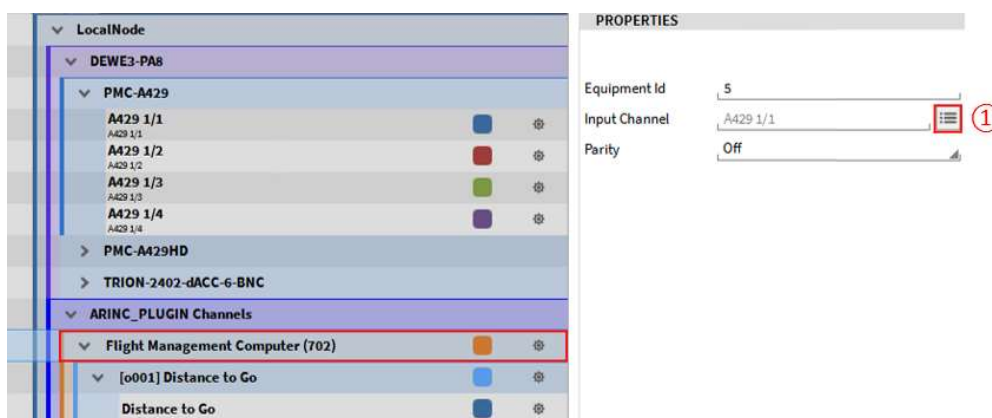

Figure 8: Channel settings of equipment ID channel
This section will explain the channel settings of the created ARINC channels. If the channel settings are changed, they can be saved in a setup file in order to use those individual channel settings. The settings of the equipment ID channel are seen in Figure 8.
- Input Channel: the used ARINC bus channel can be changed here, by clicking on the button (1) in Figure 8) and selecting another bus channel.